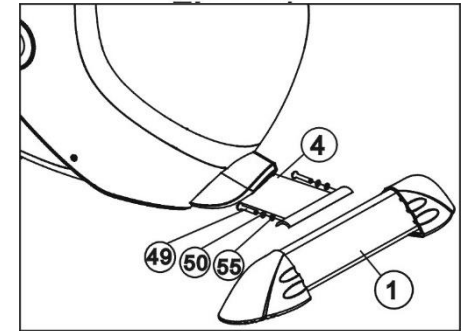

Figure2
Attach the Rear stabilizer (1) to the Main frame (4) with 2 sets of M8*20 bolt(49), Φ 8 Spring washer (50) and Φ 8 flat washer (55). (Refer figure 2)